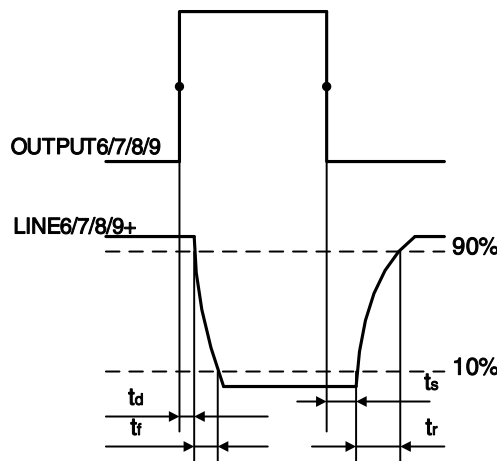

Figure 6-28 Parameter of TTL output circuit
- Rising time delay = t_d+t_f : $<4\mu s$ ($0^\circ C\sim 45^\circ C$) (parameter description is shown in Figure 6-28)
- Falling time delay = t_s+t_r : $<4\mu s$ ($0^\circ C\sim 45^\circ C$) (parameter description is shown in Figure 6-28)